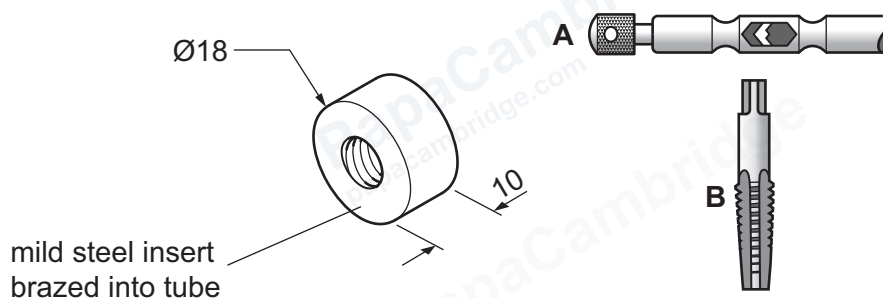

Figure 13.3
Figure 13.3 shows the mild steel insert that will be brazed into the end of the mild steel tube. Items of equipment, **A** and **B**, that could be used to cut the screw thread in the inside of the mild steel insert are also shown.
- (i) Name the items of equipment, **A** and **B**, shown in Figure 13.3.